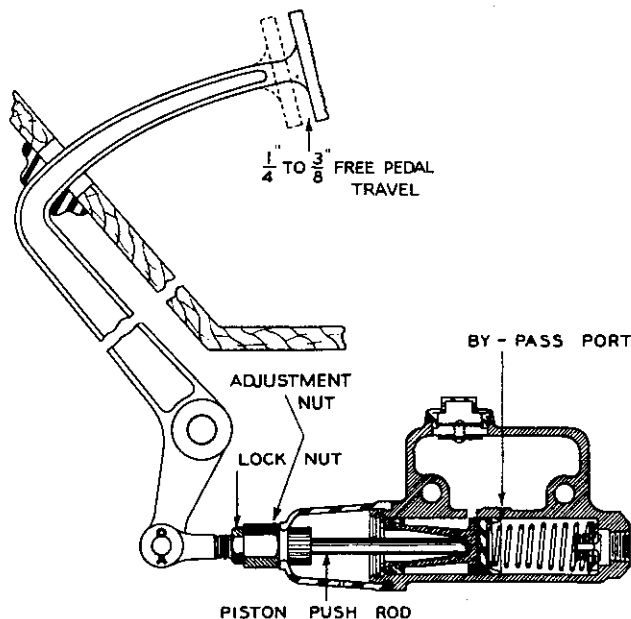

FIG. 55
**CHAMPION AND COMMANDER** Too much free motion of the brake pedal reduces the effective travel of the master cylinder piston; too little free travel may cause blocking of the by-pass port and may prevent the brakes from releasing. For this reason, adjust the brake pedal by loosening the lock nut on the piston rod and turning the larger nut until not less than  $1/4''$  (6,350 mm.) and not more than  $3/8''$  (9,525 mm.) free pedal travel exists (see Fig. 55).